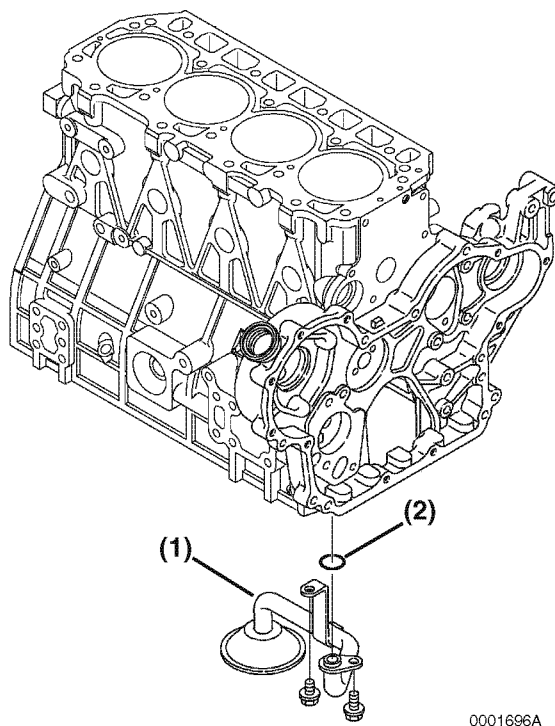

Figure 6-39
2. Remove the oil sump tube (**Figure 6-39, (1)**) and O-ring (**Figure 6-39, (2)**).